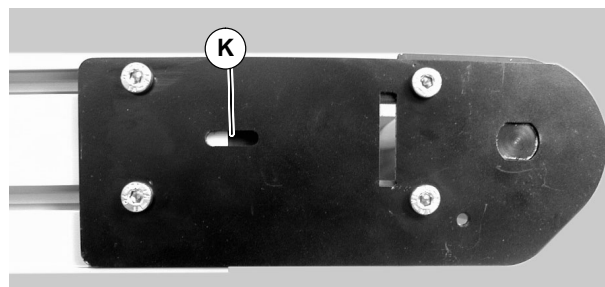

Figure 10
- Extend head plate assembly until proper tension in the belt is achieved. If proper tensioning can not be obtained before the belt life indicator is all black (K of Figure 10) the belt must be replaced.